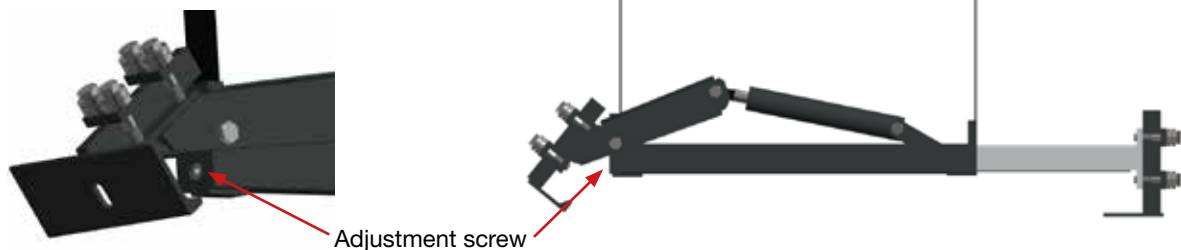

Fig. 14. Adjusting the gripper range: adjustment screw
6. Adjust the gripping range. To do this, turn the adjustment screw (see Fig. 14) using the special crank (see chap. "4.5 Tool for adjusting the paver-clamp and the jaws"). The adjustment screw is located under the movable gripper jaw. One turn of the adjustment screw corresponds to an adjustment of 4 mm.